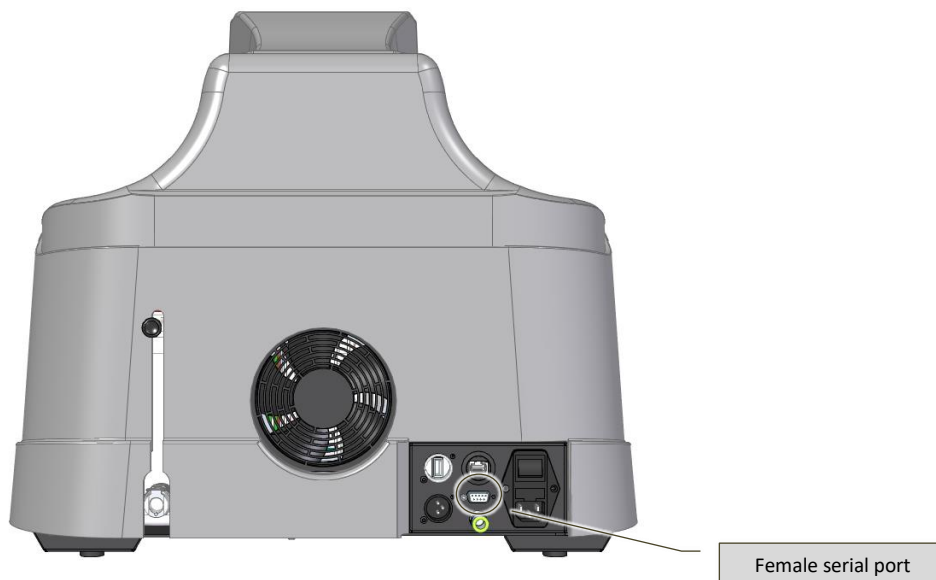

Fig. 6-8 - Position of control pedal connection
- Connect the male connector of the trigger control pedal to the female DB-9 female serial port (Fig. 6-8), located on the rear of the machine;